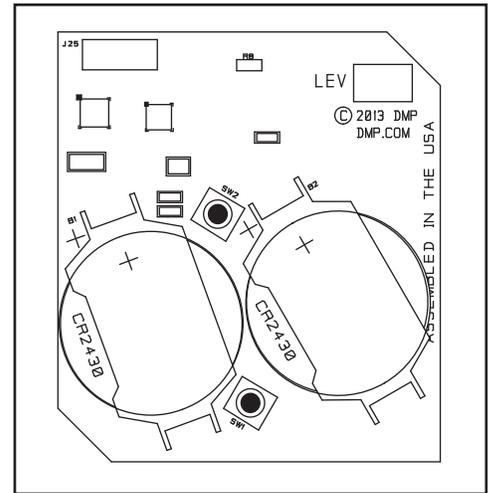

Figure 8: PCB Battery Location
5. Remove the old batteries and dispose of properly. See Figure 8 for battery location.